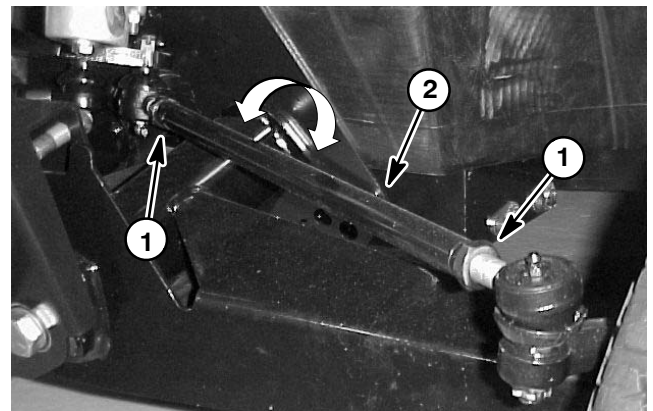

Figure 9
- A. Loosen jam nuts at both ends of tie rods (Fig. 9).